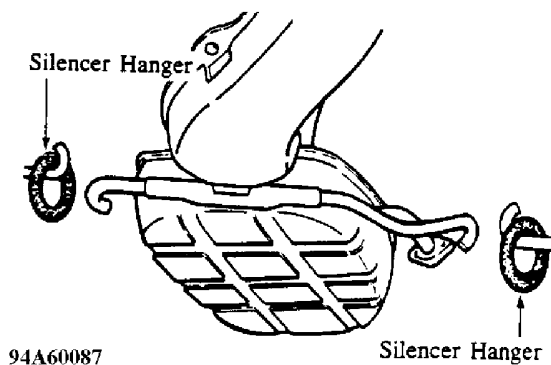

Fig. 21: Removing Silencer Hangers
4. Remove the silencer hangers. See Fig. 21.